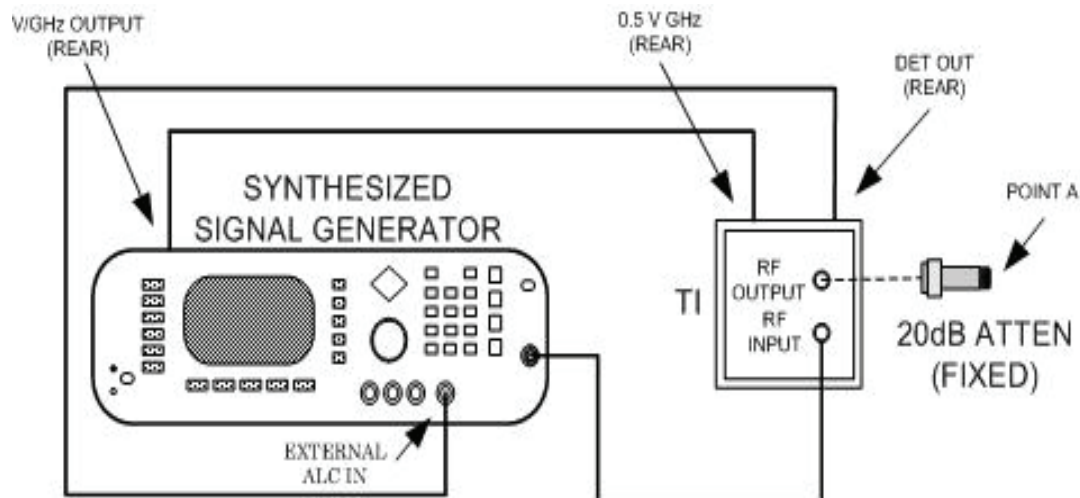

Figure 3. Leveled out output power gain and flatness - equipment setup.
- (1) Connect equipment as shown in figure 3.
- (2) Set synthesized signal generator for a 2 GHz output signal at +5dBm.
- (3) Adjust synthesized signal generator level output for a +19 dBm indication on TI **POWER LEVEL** meter.
- (4) Connect microwave frequency counter to point A in figure 3.
- (5) Adjust synthesized signal generator for a 2.0 GHz indication on microwave frequency counter.
- (6) Disconnect microwave frequency counter from point A of figure 3.
- (7) Connect power meter to point A of figure 3.
(8) Adjust synthesized signal generator level control for a TI **POWER LEVEL** meter indication of +19.0 dBm. Record power meter indication in table 4.
(9) Disconnect power meter from point A of figure 3.
(10) Repeat technique of (4) through (9) above for remaining frequencies listed in table 4.
- (c) Adjust synthesized signal generator level display to value recorded in (2) above.
- (d) Repeat (23) above, TI display will indicate between -0.3 and +0.3 dBm.
- (e) Repeat (25) above, TI display will indicate between -9.7 and -10.3 dBm.
(38) Connect equipment as shown in figure 3 with the following exception. Do not connect 20 dB attenuator (fixed) in figure 3 equipment setup.
(39) Connect power meter to **TI RF OUTPUT**.
(40) Adjust synthesized signal generator frequency setting to 2 GHz.
(41) Adjust synthesized signal generator level controls for a **TI POWER LEVEL** meter indication of 0.0 dBm.
(42) Record power meter indication in table 5.